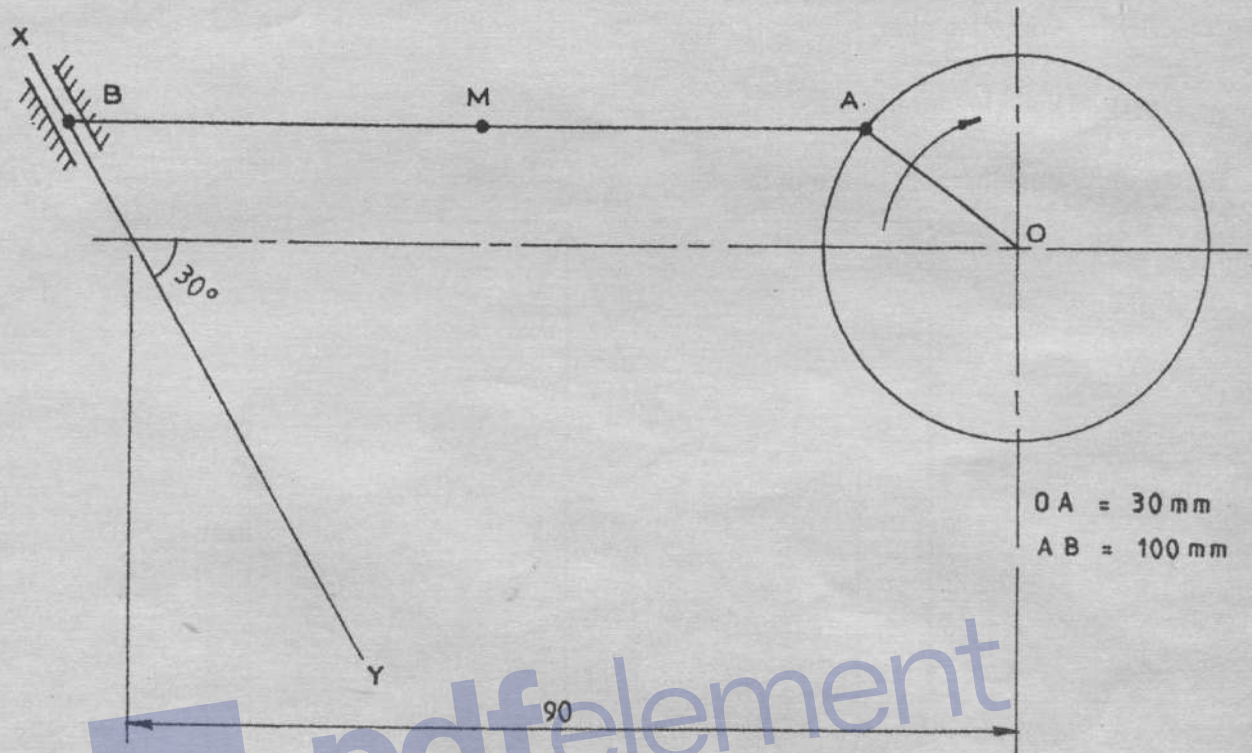

Fig. 3
7. (a) **Figure 3** shows a link AB pin-jointed at end A. End B is constrained to slide along the path XY. Draw the locus of the midpoint M for one revolution of the crank. (15 marks)